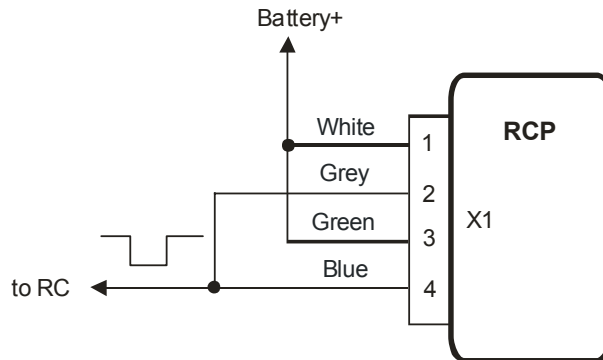

Figure 6
- The remote control with only one output channel may be connected by using the scheme at fig. 6. The scheme provides possibility not only to turn the heater on, but also to turn the heater off. Every one impulse on the output of the remote control receiver unit moves the heater to opposite state: switch on idle heater, switch off operated heater. To realize this mode it is necessary to connect in pairs the inputs Heater_on+ with Heater_off+, and the inputs Heater_on- with Heater_off-.